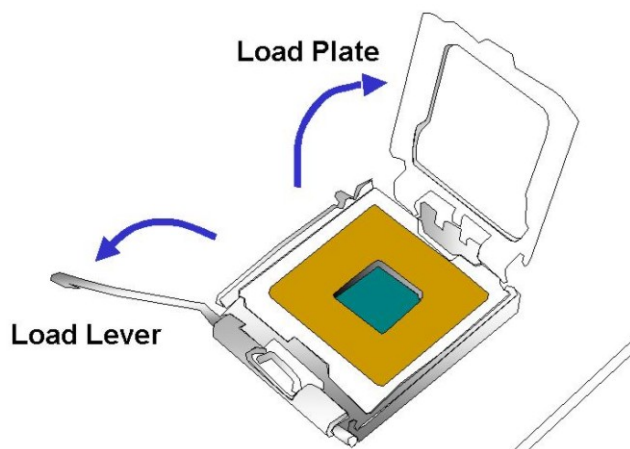

Figure 5-3: Open the CPU Socket Load Plate
Step 2: Open the socket. Disengage the load lever by pressing the lever down and slightly outward to clear the retention tab. Rotate the load lever to a fully open position. Then rotate the load plate towards the opposite direction. See **Figure 5-3**.